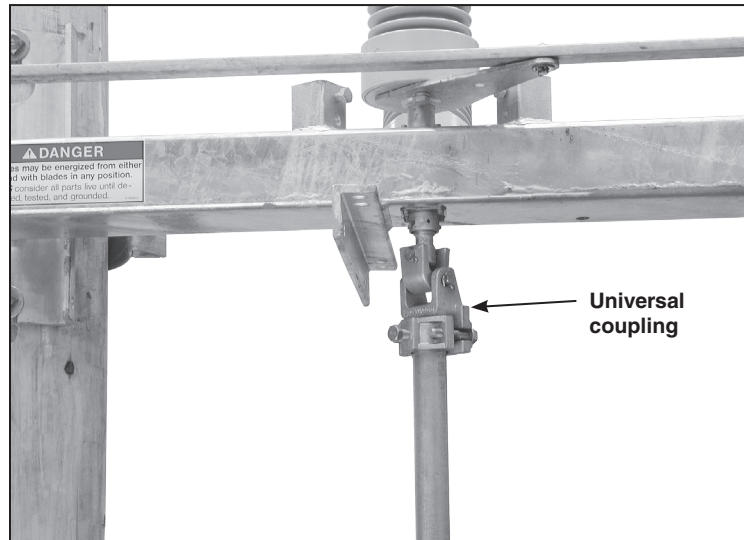

Figure 15. Install the uppermost section of the vertical operating pipe.
STEP 13. Insert the uppermost section of vertical operating pipe into the universal coupling attached to the underside of the switch assembly. See Figure 15. Back the piercing set screw out of the body of the pipe coupling before tightening the coupling clamp bolts.